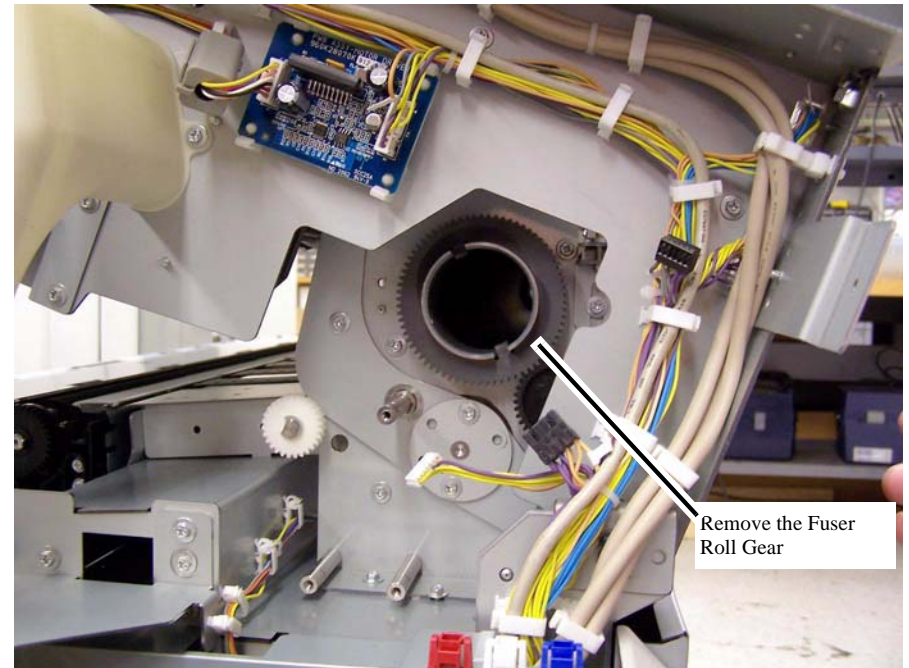

Figure 5 Fuser Roll Gear
- b. Remove the Fuser Roll Gear (73T) by sliding it off the Fuser Roll (Figure 5).